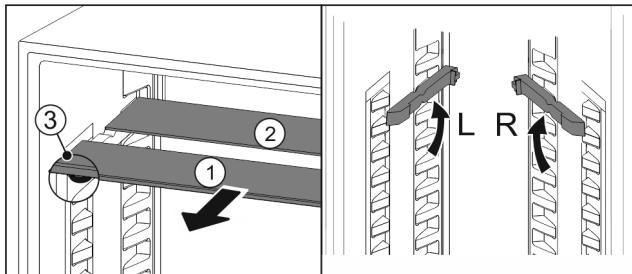

Fig. 110
- Pull the glass panels out Fig. 110 (1) from the front, one at a time.
- The glass panel Fig. 110 (1) and trim strip are at the front.
- The stops Fig. 110 (3) point down.